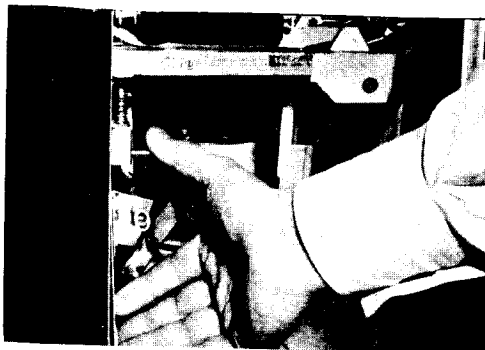

FIGURE 24
- Pull down the brewer lock pin under the front left of the brewer, and rotate it away from you to the right to secure in down position. (FIGURE 24)